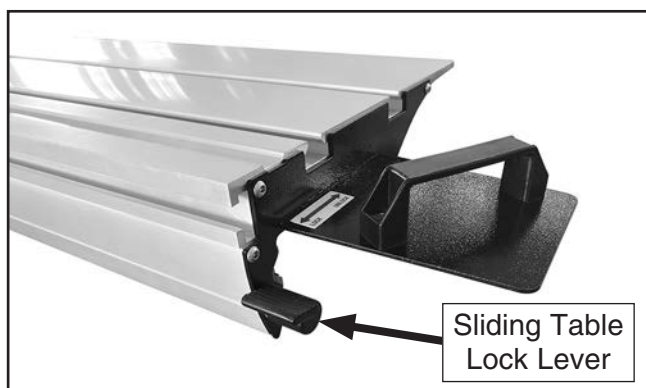

Figure 111. Location of sliding table lock lever.
2. Lock sliding table in place with table lock lever (see **Figure 111**).